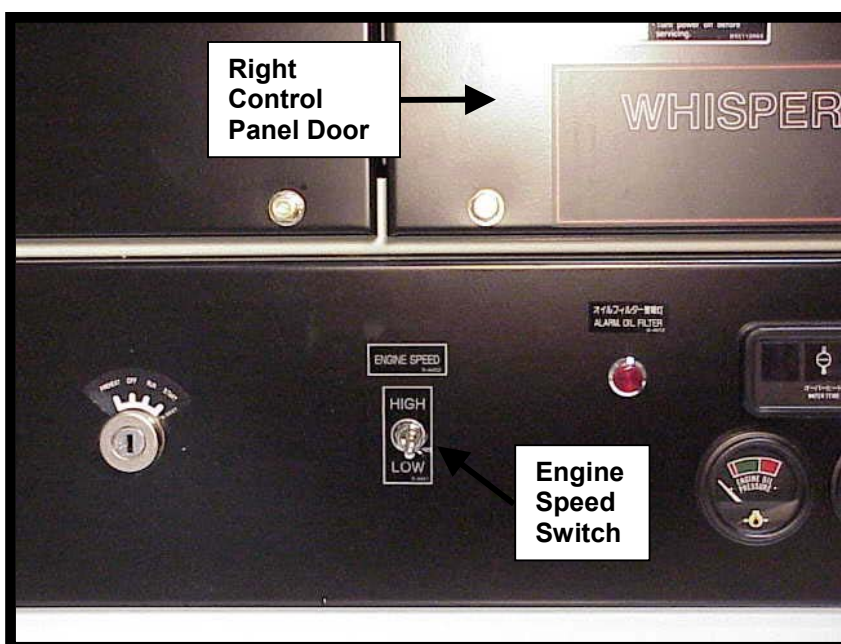

Figure 2
- 2) Set Engine Speed Switch to the Low Speed position. **See Figure 2** (Located on Main Control Panel).
- 4) Change the Engine Speed Switch to the High Speed position. **See Figure 2** (Located on Main Control Panel).